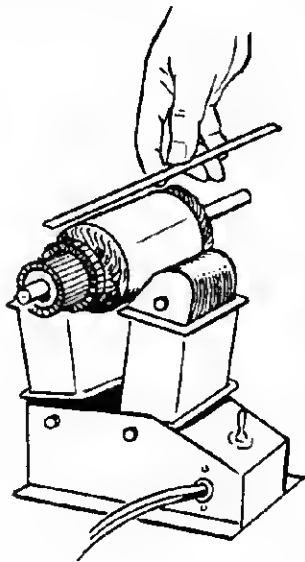

FIGURE 34. TEST FOR SHORTED ARMATURE
**Testing the Armature for Shorts:** Place the armature in the growler and hold a thin steel blade parallel to the core and just above it, while slowly rotating the armature in the growler (Figure 34). A shorted armature causes the blade to vibrate and move toward the core. A shorted armature must be replaced.